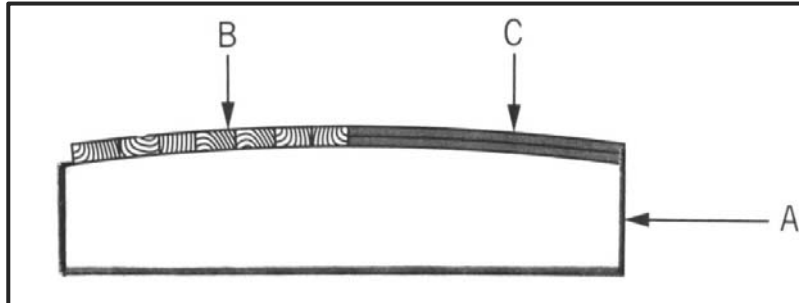

FIGURE 5.1
5.1 FIGURE 5.1 below shows a pictorial view of closed laggings. Study the picture and answer the questions that follow.
5.1.2 Explain ONE use of **B** if it is used in a closed position, as shown in FIGURE 5.1. (1)